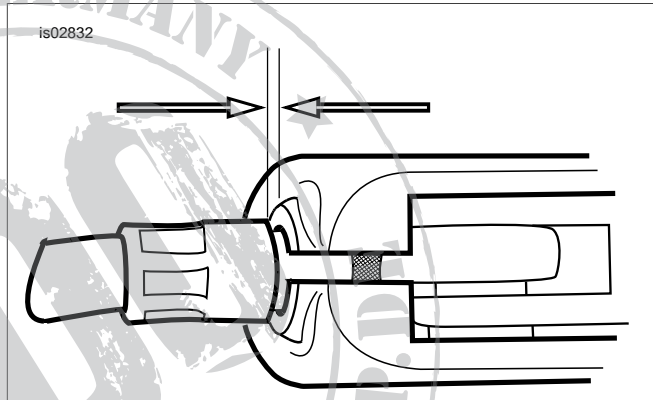

Figure 2. 1/16-1/8 inch (1.6-3.2 mm) Clutch Cable Free Play
- e. See Figure 2. Turn the cable adjuster away from the jam nut until slack is eliminated at the hand lever. Pull the clutch cable ferrule away from the clutch lever bracket to check free play. Turn the cable adjuster as necessary to obtain 0.625-0.125 inch (1.6-3.2 mm) free play between the end of the cable ferrule and the clutch lever bracket.